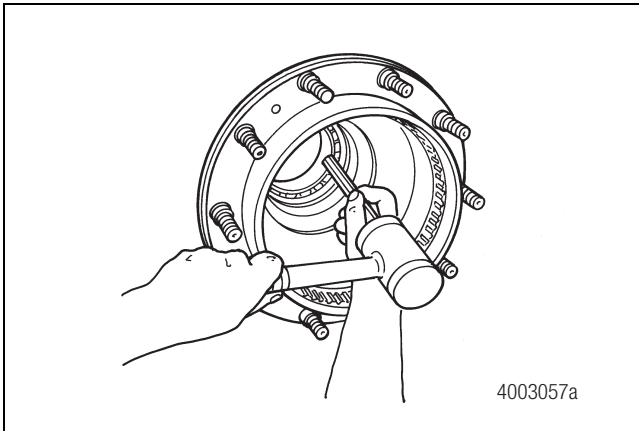

Figure 3.21
2. Use a hammer and brass drift to tap the inner bearing cone and hub seal. Thoroughly clean any bearing retaining compound, if present. Figure 3.21.